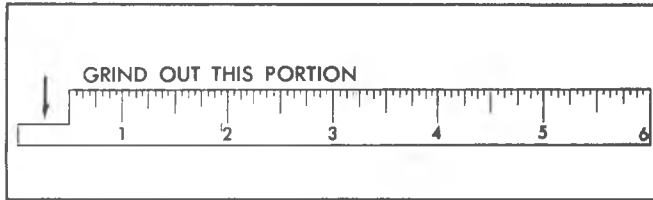

Fig. 6A4-24--Cutaway Scale
5. Check the installed height of the valve springs, using a narrow thin scale. A cutaway scale will help (fig. 6A4-24). Measure from the top of the shim or the spring seat to the top of the oil shedder (fig. 6A4-25). If this is found to exceed the specified height, install a valve spring seat shim approximately 1/16" (1.6mm) thick. At no time should the spring be shimmed to give an installed height under the minimum specified.